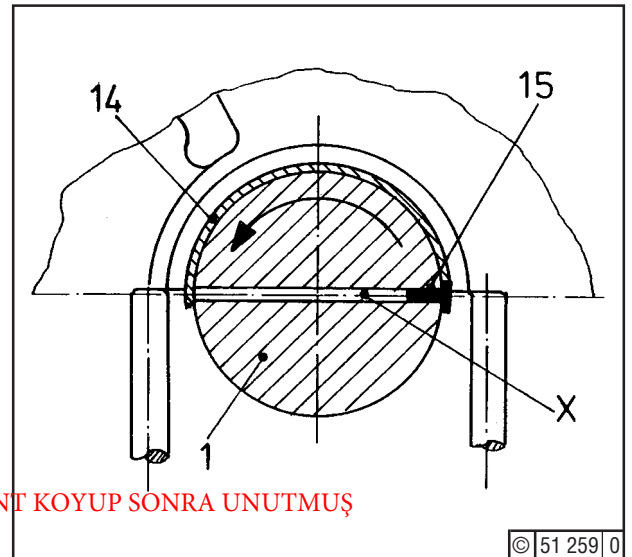

Fig. 5
If upper shell (14) cannot be pushed out by hand, insert driver pin (15) into oil passage 'X' of crankshaft (1) and carefully turn crankshaft in the arrowed direction (Fig. 5) until the flat of pin (15) contacts the joint of upper shell (14). Carefully turn farther until the upper shell can be removed by hand. Inspect upper shell for the lug marking (see job 02.08.01). Provide mark if missing. Remove pin (15).